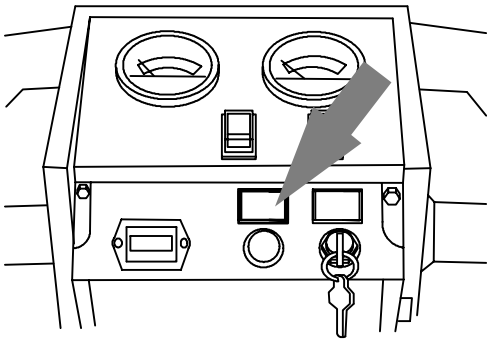

FIG. 23
- ES SCRUBBING: Press the right side of the ES switch to activate the ES system. The switch will light up (Figure 23).